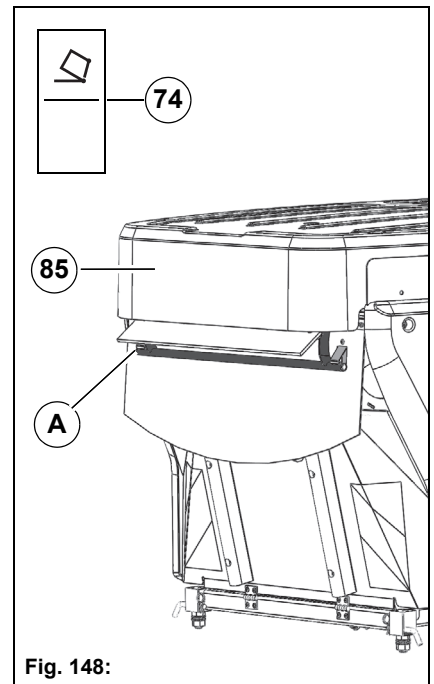

Fig. 148:
- Before emptying the dirt hopper **Fig. 148-85** open the lock **Fig. 148-A** of the lid.